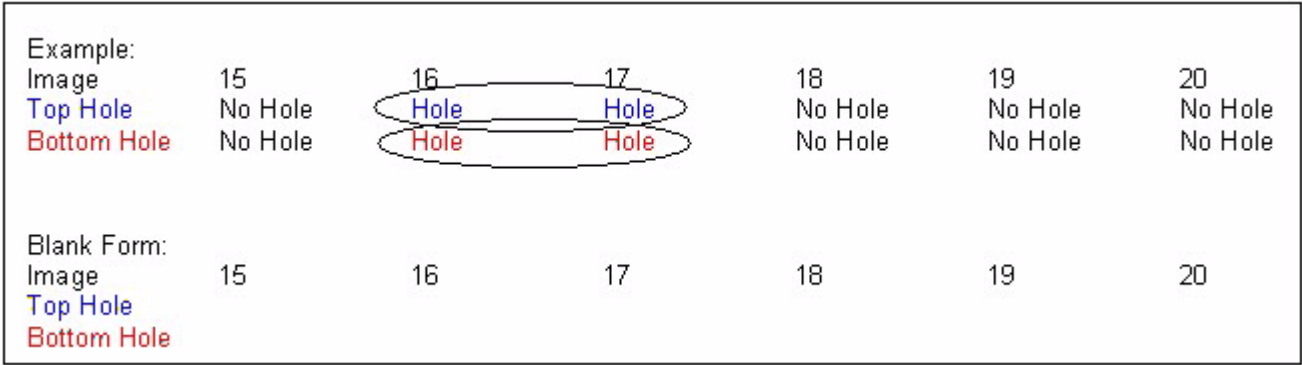

Figure 7-10 Centerline Example 4
- 3.) Make additional adjustments so that the top and bottom holes can be seen in the same 2 consecutive images (0 slices between centerlines). (See Figure 7-10.)